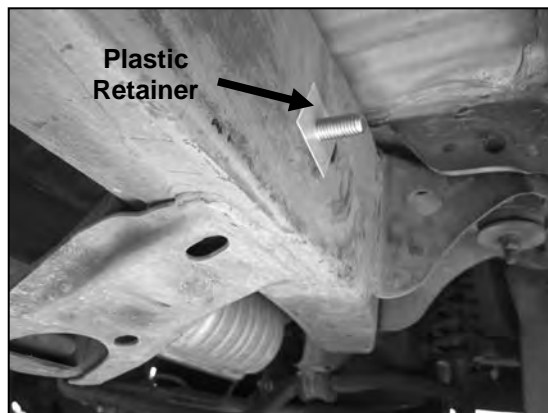

Figure 4
5. To secure the Bolt Plate in place, put a Plastic Retainer on Bolt and thread tight against the frame (**Figure 4**).